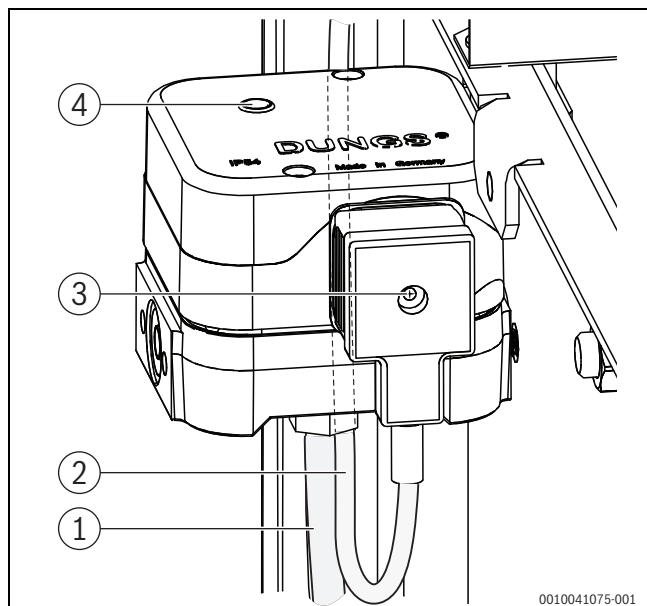

Fig. 81 Detail view of pressure monitor
- ▶ Reset by pressing the Reset button (the enclosure does not have to be opened), → Fig. 81.